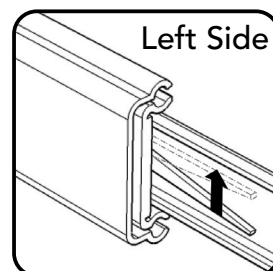

Figure 8
Note: To remove Drawers (M) and Keyboard in the future, push the plastic lever on the left side up, push the plastic lever on the right side down and pull open slowly. (See Figures 8 and 9)